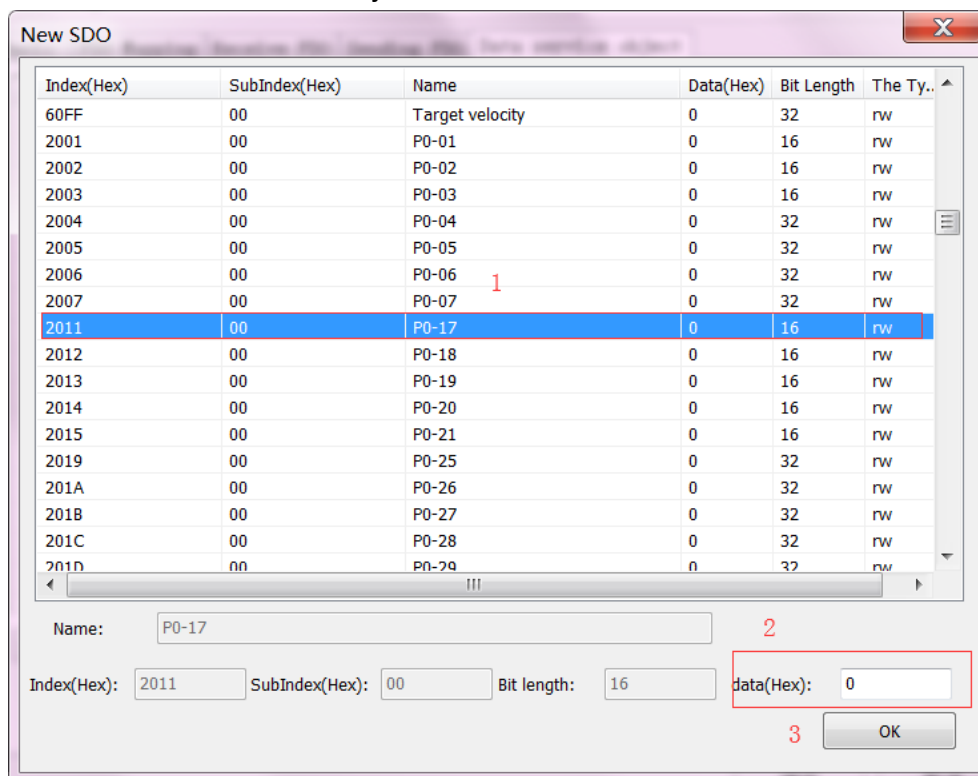

Figure 7-8
- 10) Please follow the steps as Figure 7-8 shows;